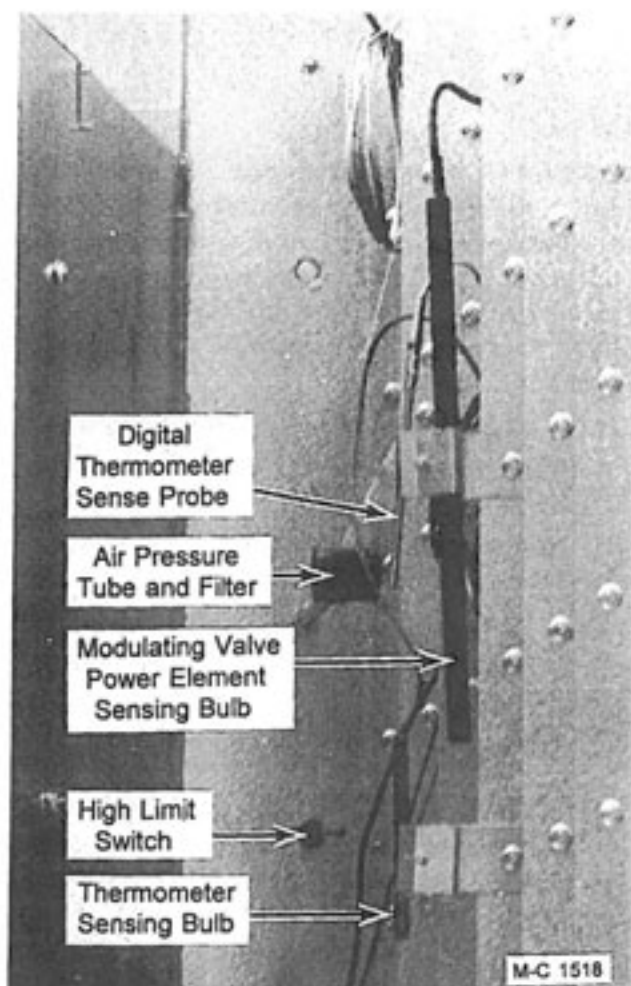
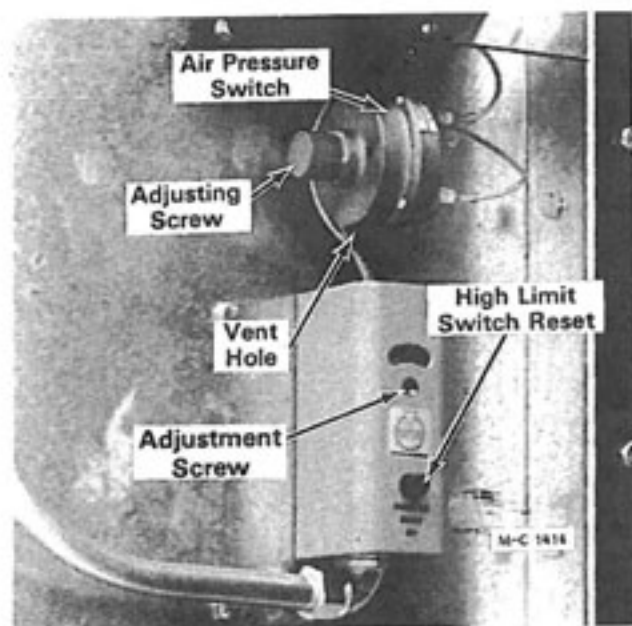

Figure 8
Figure 9 - Adjustable High Limit Switch
NOTE: If the light does not come on, remove the air pressure switch and check to be sure the $\frac{1}{8}$ " vent hole in the bottom of the air pressure switch is open, see Figure 9. Also check for an obstruction in the air pressure tube and filter, see Figure 8.
1. Remove the plastic cap on the air pressure switch. The slotted screw is the adjusting screw, see Figure 9.
1. Set all of the adjustable high limit switches approximately 50°F above the desired burner operating temperature, see Figure 9 and the "Suggested Burner Operating Temperature Setting Chart" on page 15.